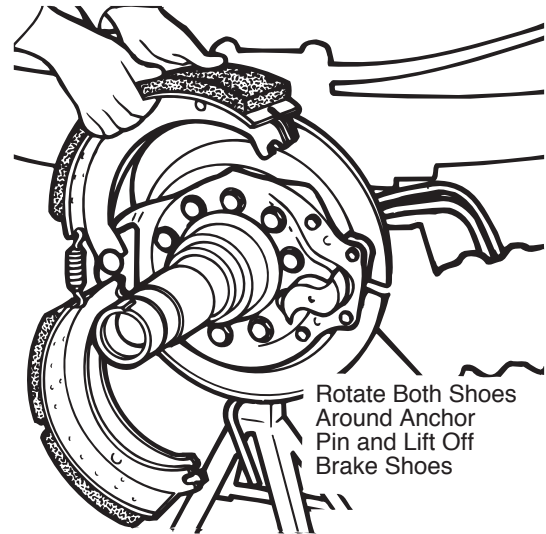

Figure 8
7. Rotate both shoes around anchor pin and remove from vehicle. Refer to Figure 8.